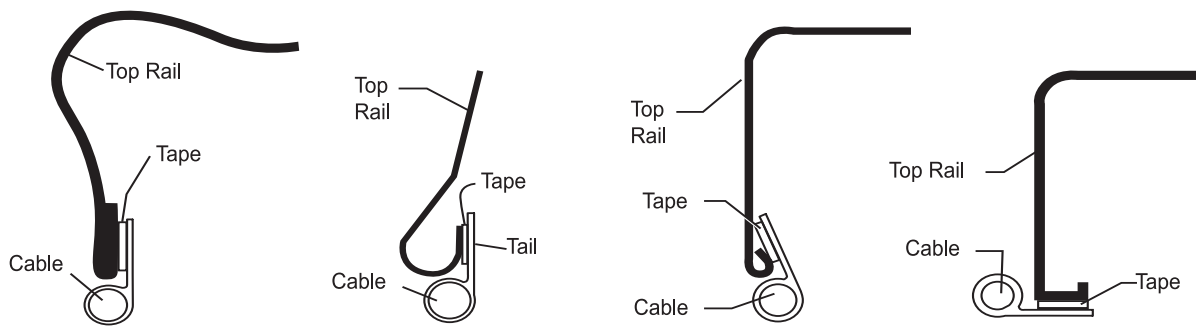

Figure 4. Flexible fiber optic cable tail fits most top seats.
3. Peel a small section of the green liner back and begin adhering the cable to the top rail as shown in Figure 4. **Once you have finished a section, go back and firmly press the cable tail onto the top rail edge.** This will ensure a good adhesion to the top rail.